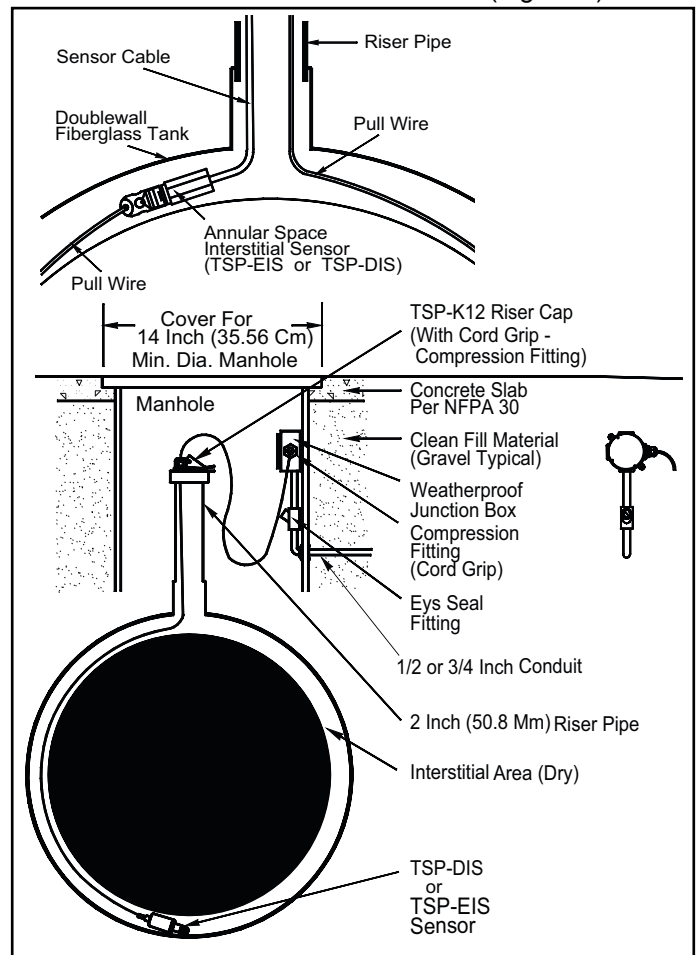

Figure 2: Installation in Double-Walled Fiberglass Tanks
- Thread UL approved sealant or pipe dope as required for installation in UST interstitial areas (Figure 2).
4. Interstitial installation – Figure 2, measure the length of the riser pipe + 1.5 x diameter of tank = _____ total length. Mark this length on the cable and pull it through the TSP-KI2 riser cap cord-grip until the mark is 12 inches (30.5 cm) above the fitting. Tie one end of the pull-wire to the sensor pull cap and pull the wire until the sensor cable moves just above the cord-grip (leave the pull wire in place: loop the wire around the cable) and then tighten the fitting.